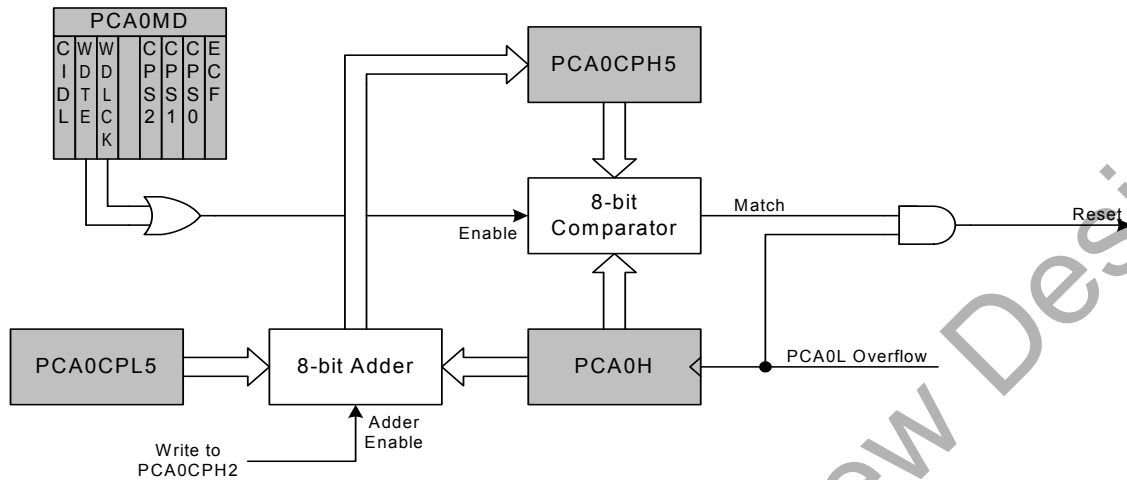

**Figure 34.11. PCA Module 5 with Watchdog Timer Enabled**
While the WDT is enabled, writes to the CR bit will not change the PCA counter state; the counter will run until the WDT is disabled. The PCA counter run control bit (CR) will read zero if the WDT is enabled but user software has not enabled the PCA counter. If a match occurs between PCA0CPH5 and PCA0H while the WDT is enabled, a reset will be generated. To prevent a WDT reset, the WDT may be updated with a write of any value to PCA0CPH5. Upon a PCA0CPH5 write, PCA0H plus the offset held in PCA0CPL5 is loaded into PCA0CPH5. (See Figure 34.11.)